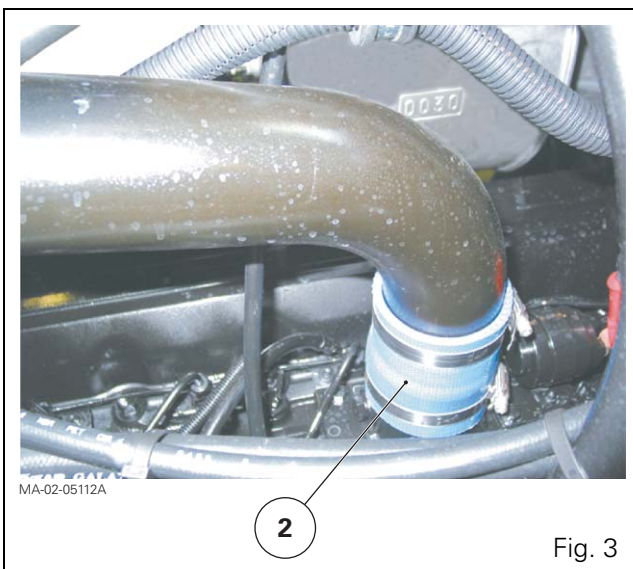

Fig. 3
13. Disconnect the intake air manifold sleeve (2) (Fig. 3).